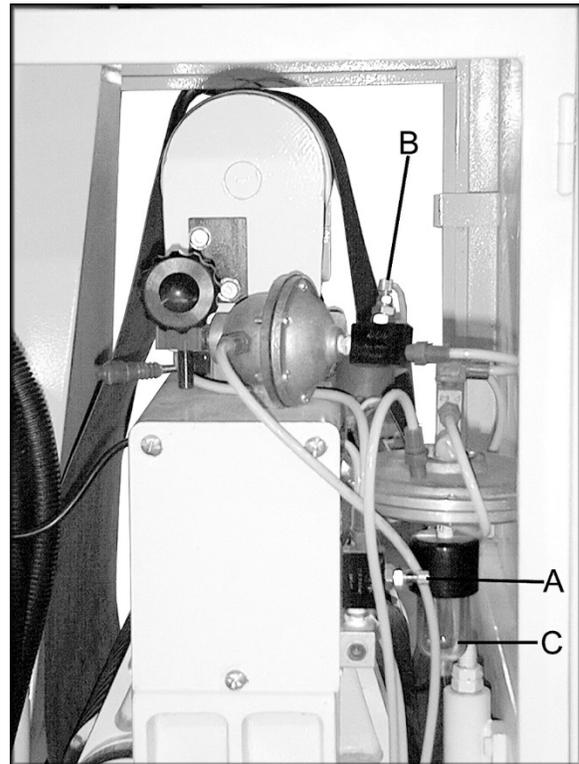

Figure 3
1. Adjust the air valve (A), Figure 3, to control the tracking sensitivity.
2. The oscillation speed can be controlled by adjusting the top air valve (B).
3. Empty the glass container (C) as needed.